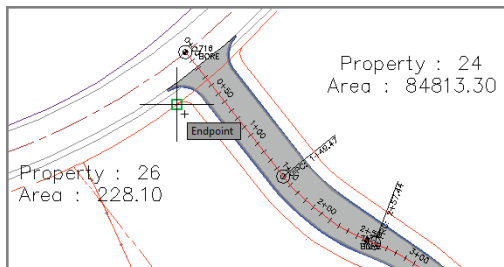

FIGURE 12.13 Selecting the beginning point of the frontage
4. When you’re prompted for the start point of the frontage, snap to the endpoint of the right-of-way line at the entrance of Jordan Court, as shown in Figure 12.13.